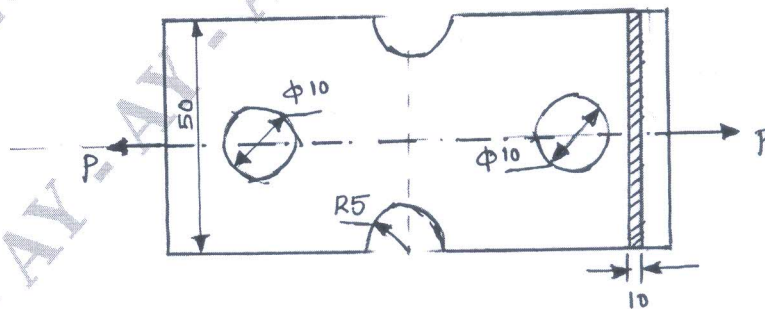

Fig.Q2(c)
c. Determine the safe load that can be carried by a bar of rectangular cross-section shown in Fig.Q2(c), limiting the maximum stress to 130 MPa taking stress concentration into account.